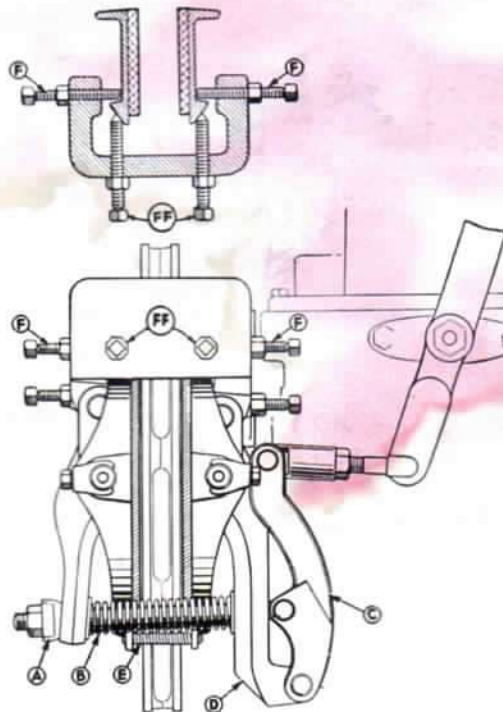

FIG. 13
- A. Disconnect pull rod from lever "C" Fig. 13.